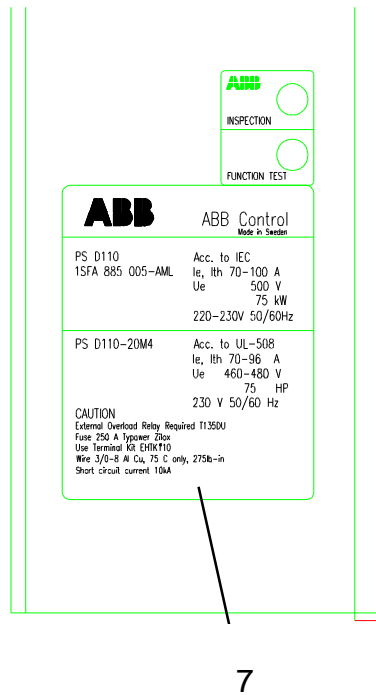

Fig4.
Change the marking plate (7) (see fig 4).